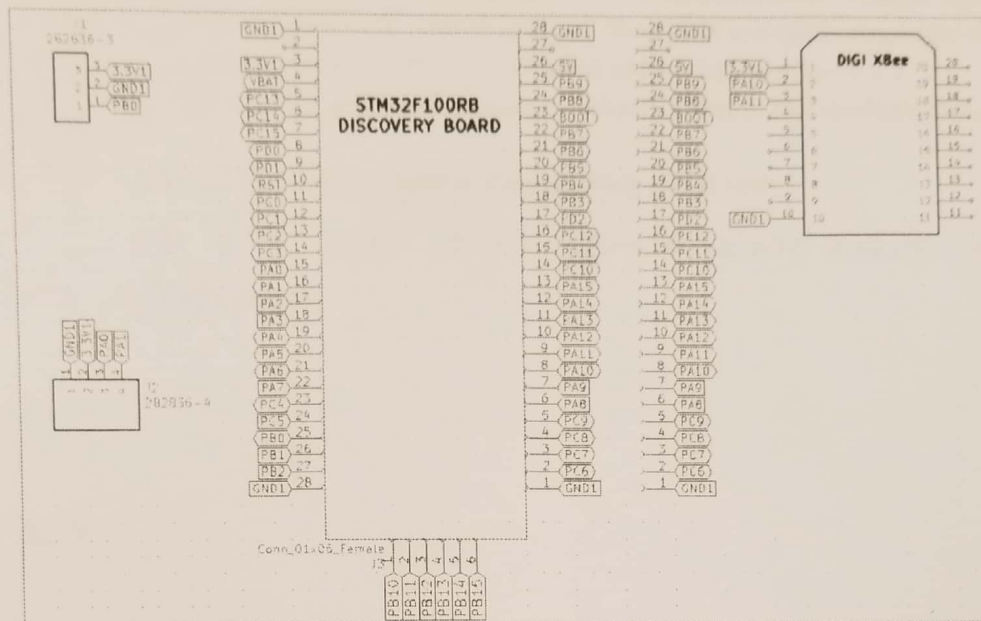

Figure 1.0: Microcontroller and XBEE Schematic
1. Connect the Zigbee module to the power supply and the microcontroller board* as shown in figure 1.0 below: